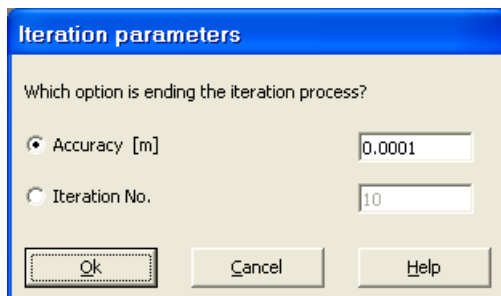

Figure 10-34 "Iteration parameters" option box
- Choose "Computation of all" command from "Calculation" menu in *ELPLA-Solver* Window, the "Iteration parameters" option box will appear (Figure 10-34)